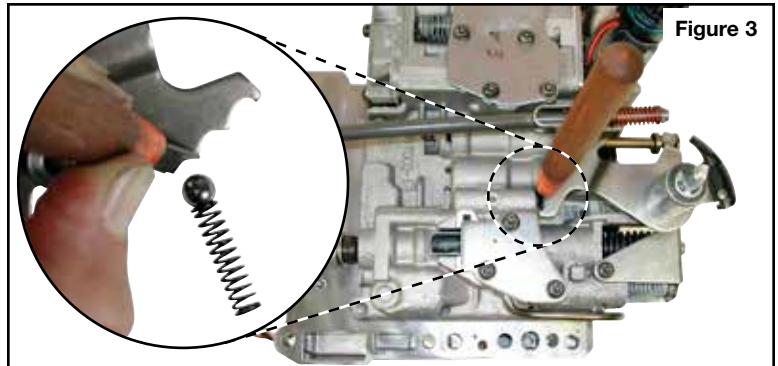

Figure 3
- Remove OE detent assembly and spring retainer bracket and save for reuse (**Figure 3**).